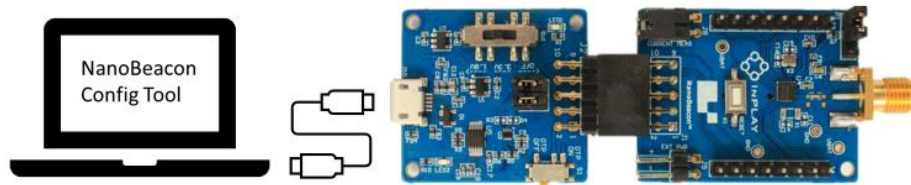

Figure 4 : Connect NanoBeacon DK board to programmer board
Step 1: Insert IN100 NanoBeacon DK board into the programmer board (make sure to follow the orientation as shown in Figure 4).